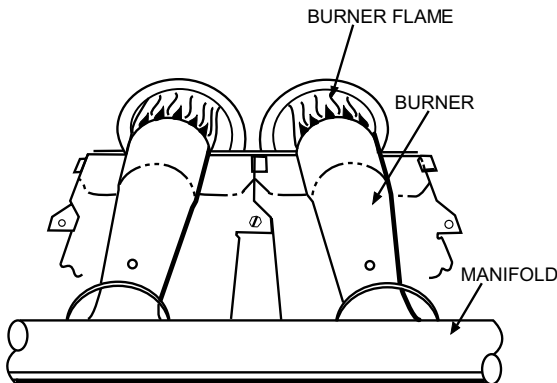

Fig. 8 – Monoport Burner
1. Inspection of all flue product passages-including the burners, heat exchanger, and flue collector box. Make sure the burner flames are blue in color and in proper adjustment. Refer to Fig. 8 for burner flame.